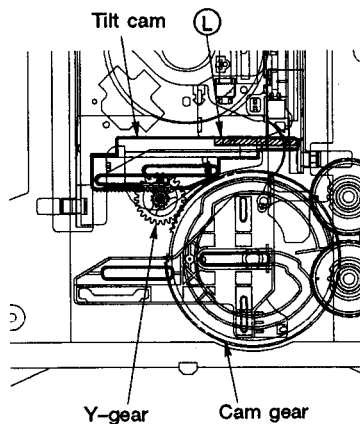

Fig. 2-8
**④ Tilting the Servo-Mechanism Unit**
The Y-gear on the motor base, from ascending of the servo-mechanism unit to clamping, and cam gear are engaged to drive the tilt cam (Fig. 2-8). Since support points from the tilt base are provided on the slanted side ① (Fig. 2-8) of the tilt cam, tilting is performed by the left/right movements of the tilt cam.